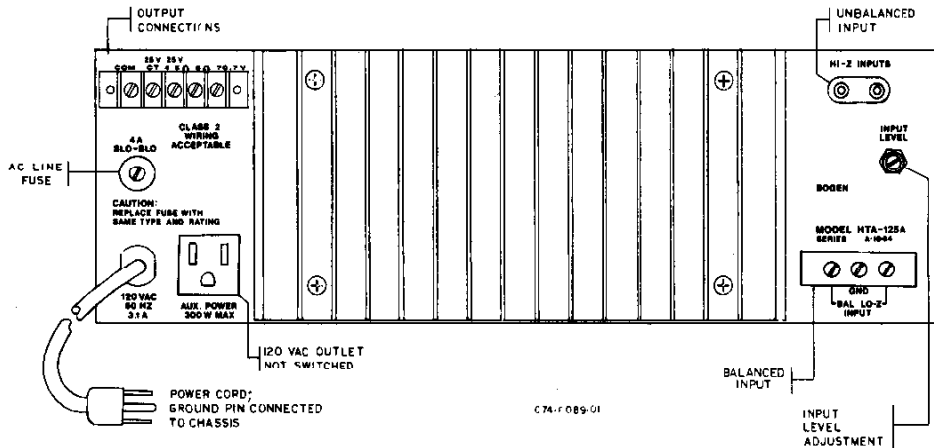

Figure 1 — HTA-125A Rear Panel Connection Diagram
**LOW-IMPEDANCE BALANCED INPUT.** A balanced input, provided at the BAL LO-Z terminal strip (Figures 1, 3), requires the installation of a Bogen Model TL-600 line-matching transformer. Remove the top cover of the unit and install the transformer in the socket designated T1 provided on the printed circuit board. An input signal of 100mV is required for full rated output.
**HIGH-IMPEDANCE INPUT.** A high-impedance input is provided by two RCA-type  $\frac{1}{4}$ " phono jacks (see Figures 1, 3). An input signal of 500mV is required for full rated output.
Output connections are available on the rear panel terminal strip for 4-ohm, 8-ohm, 25V, 25VCT, and 70 V (the 4-ohm output is combined with the 25V tap on the HTA-125A). Figures 1 and 3 show the location of the output terminal strip. Class 2 wiring is acceptable for output loads. Refer to Note 2 on the schematic diagram for 4-ohm output impedance in the HTA-125A.
**AC LINE FUSE.** Figures 1 and 3 show the location of the AC line fuse. Replace the fuse only with same type and rating. If a second fuse blows, do not make any attempt to operate the unit. Consult the Bogen Service Department or an authorized service agency.